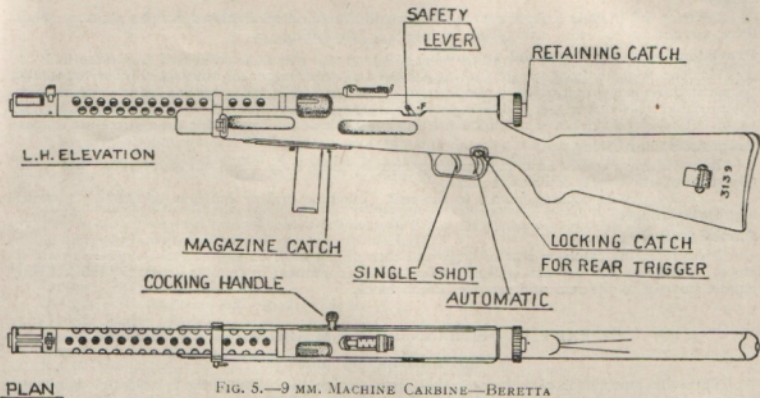

FIG. 5.—9 MM. MACHINE CARBINE—BERETTA
12. 9 mm. Machine Carbine, Mod. 38—Beretta. (See Fig. 5)